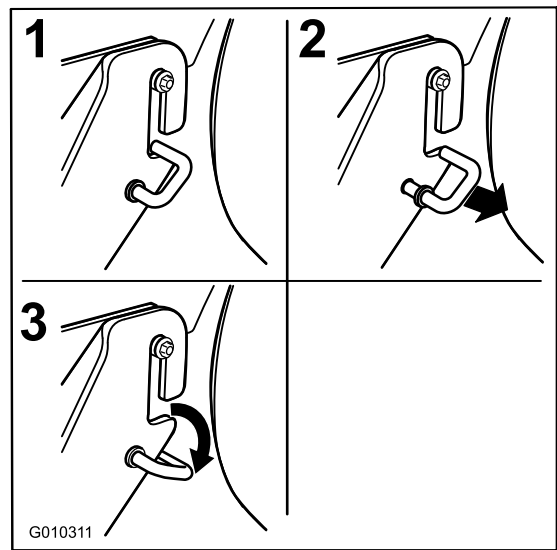

Figure 71
1. Move the spring loaded J-hooks out of the slot in the rear hanger brackets on both sides of the deck (Figure 71).
6. Attach the front support on the mower deck to the front deck hangers and secure them with a washer and hairpin cotter (Figure 71).